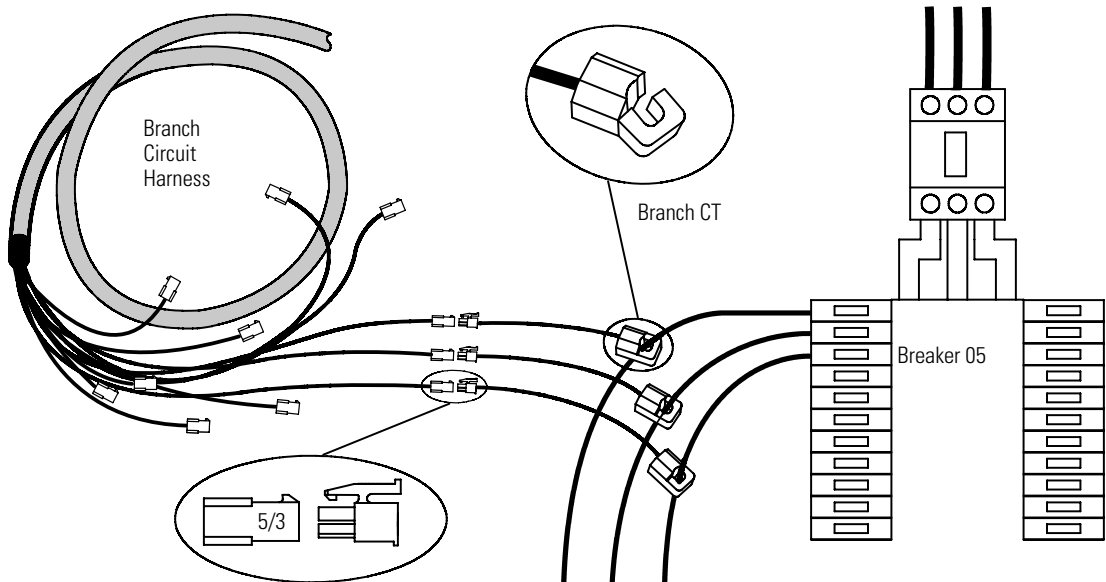

Figure 9. Branch Circuit Harness Connections
6. **75A or 100A Split-Core Branch CT option only.** Connect the two branch circuit harnesses to the breaker panel (see Figure 9):